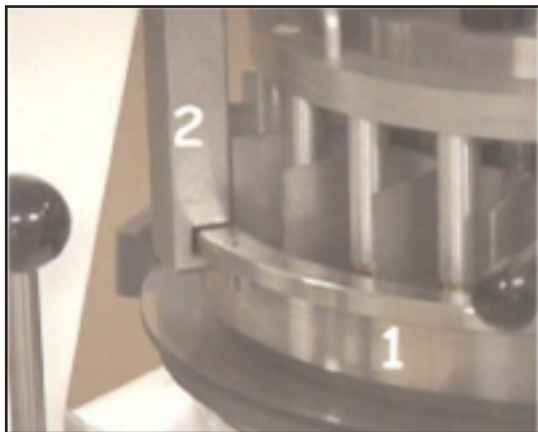

Figure 8
3. Hold handle in this position, grasp outer edges of the ring (Fig. 8, No. 1) keep fingers out of the divider/plug area. Rotate ring $\frac{1}{4}$ turn until slots are in line with the arms (Fig. 8, No. 2).
5. Remove ring (Fig. 8, No. 1) from machine, set ring aside on work bench. Do not drop or bump ring as this can cause nicks or other damage to ring.